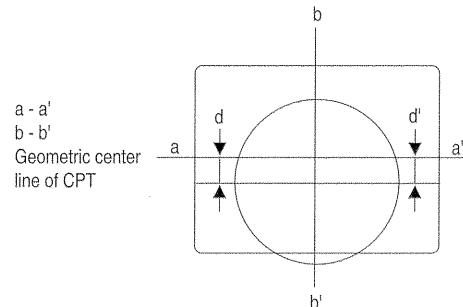

Fig. 2-3
- (9) Move DY so that the rear edge position of DY comes to the center of the two marked lines and fasten DY as d=d (Fig. 2-3). Further insert the rubber wedge between DY and CPT funnel from the top and raise DY backwards.